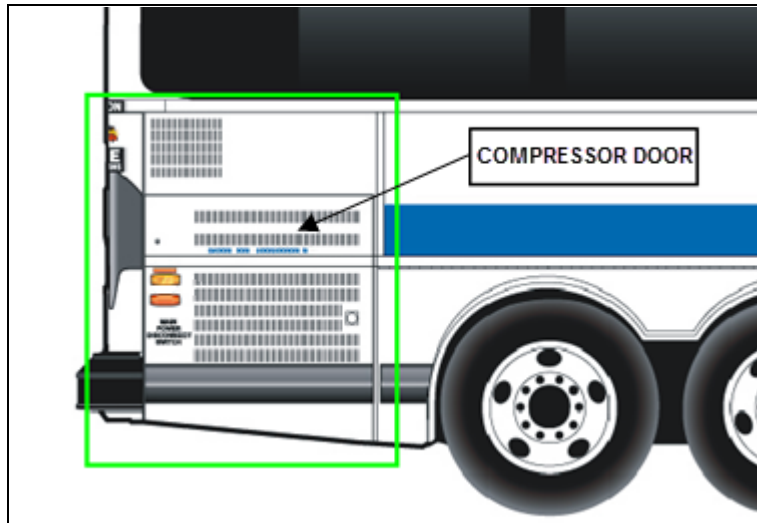

FIG.9 VEHICLE COMPRESSOR DOOR
- 1) Fully open the vehicle compressor door (rear, curb side of vehicle Fig.9).